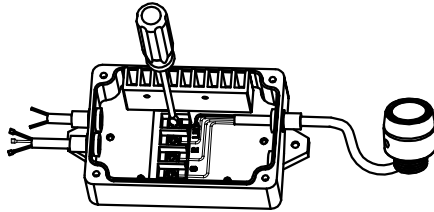
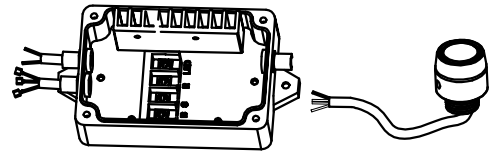

FIG 2
FIG 3
2. Loosen the screw fixing the wire of the lights in the controller box(Ref.FIG 2), then remove the wire of the light from the controller box. (Ref.FIG 3).